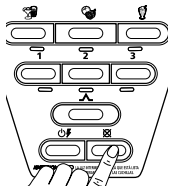

Fig. 23
2. Press the stop  button to cancel the operation at any time (Fig. 23).